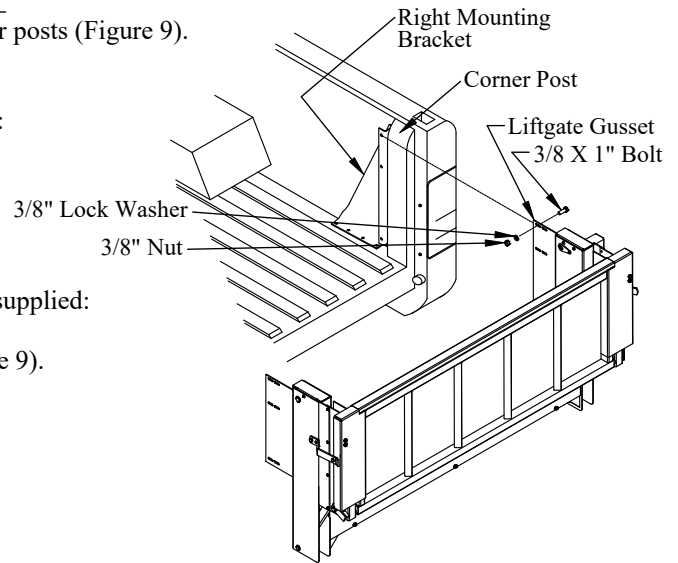

Figure 9: Mounting bracket and liftgate.
1. **Position** the mounting brackets into the truck bed in front of the corner posts (Figure 9).
- (3) 3/8"x1" hex head bolts on the bracket-side (Figure 9).
- (3) 3/8" lock washers, and (3) 3/8" nuts on the gusset-side (Figure 9).
7. **Drill** two (2) 3/8" holes into the truck bed floor using two holes in the bracket as a guide.